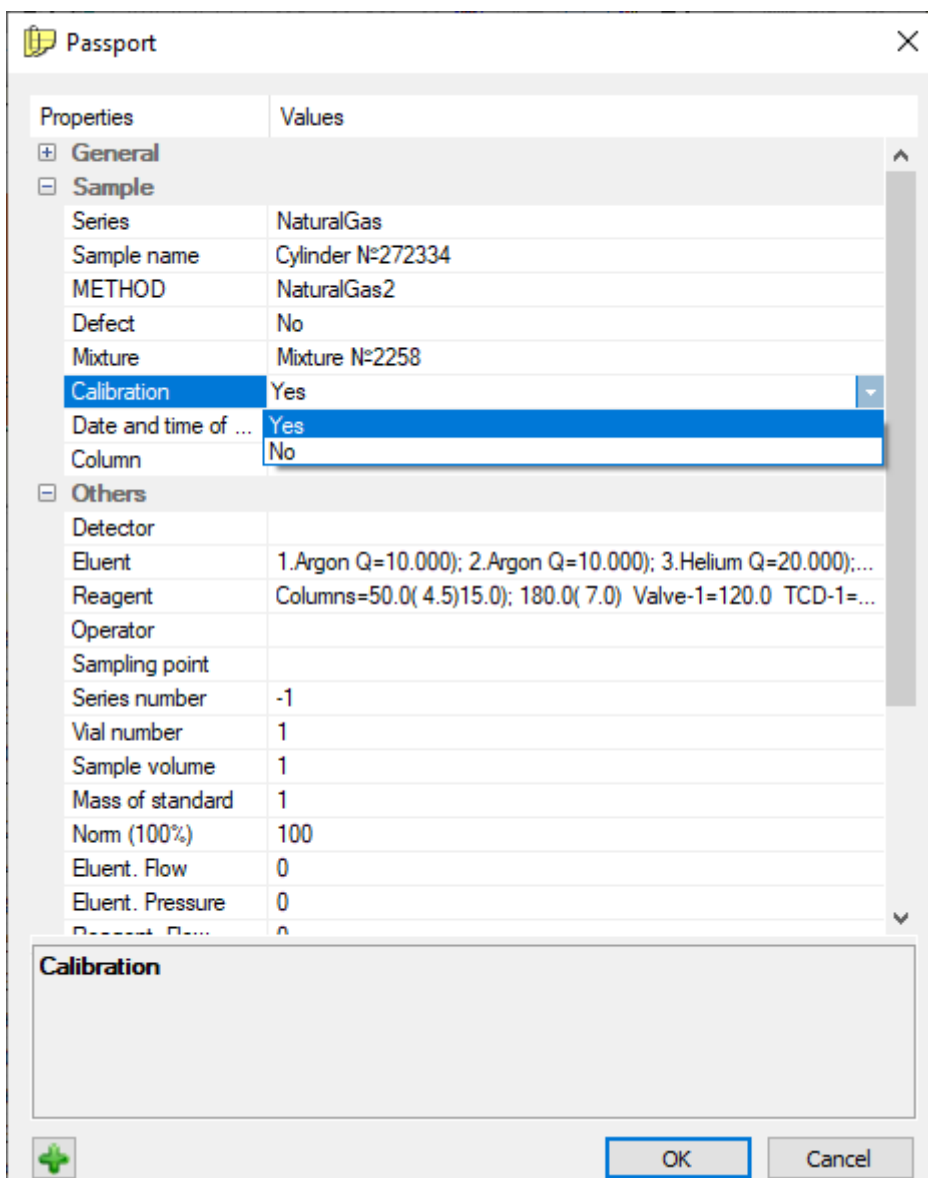

Fig. 61: Calibration Checkbox
2. In the *Sample* section, next to the *Calibration* property, select **Yes** (Fig. 61).